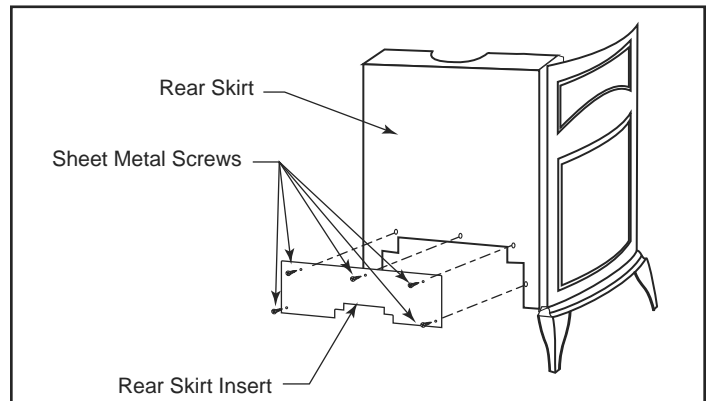
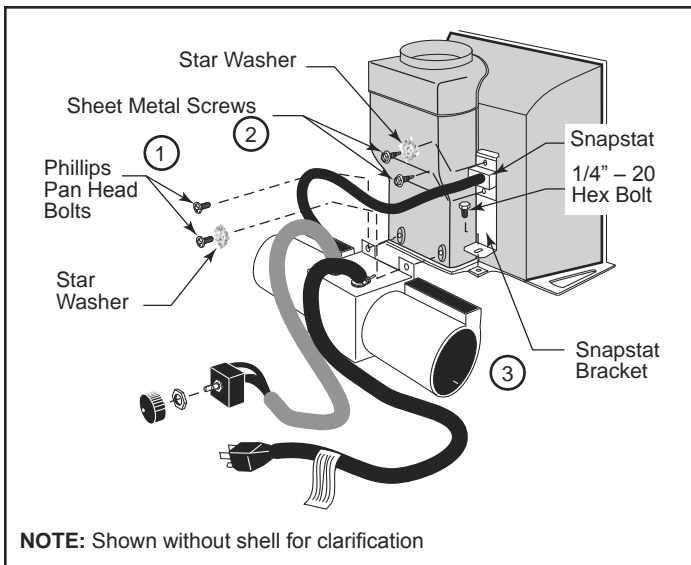

Figure 16 - Remove rear shroud.
Figure 17 - Attach blower assembly and snapstat.
2. Remove the rear skirt insert panel at the bottom of the Rear Skirt (Figure 16) and fasten the blower assembly to the firebox back with the two Phillips pan-head bolts originally installed in the firebox back. ('1', Figure 17)
3. Attach the snapstat assembly to the snapstat bracket with two sheet-metal screws. ('2', Figure 17) Attach the snapstat bracket to the stove with a hex-head bolt passing through the bracket and into the stove base. ('3', Figure 17)